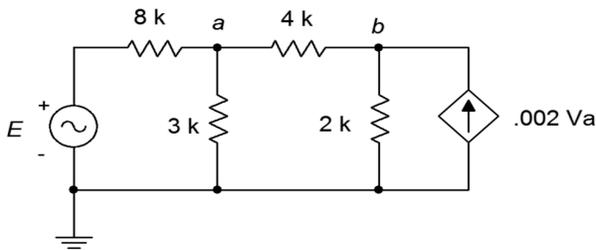

Figure 6.25
56. Given the circuit in Figure 6.25, determine the current flowing through the 3 kΩ resistor if the source  $E = 25\angle 33^\circ$ .
57. Given the circuit in Figure 6.25, determine  $v_{ab}$ . Assume the source  $E = 15\angle -112^\circ$ .